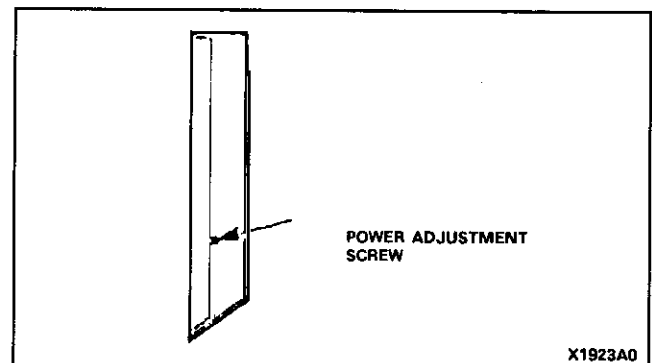

Figure D1-1 Remote Display
- Using a slotted screwdriver, turn the power adjustment screw (Figure D1-1), located at the right-hand side of the remote display, clockwise until the display initially turns on. Continue to turn until the display turns off and note this position.